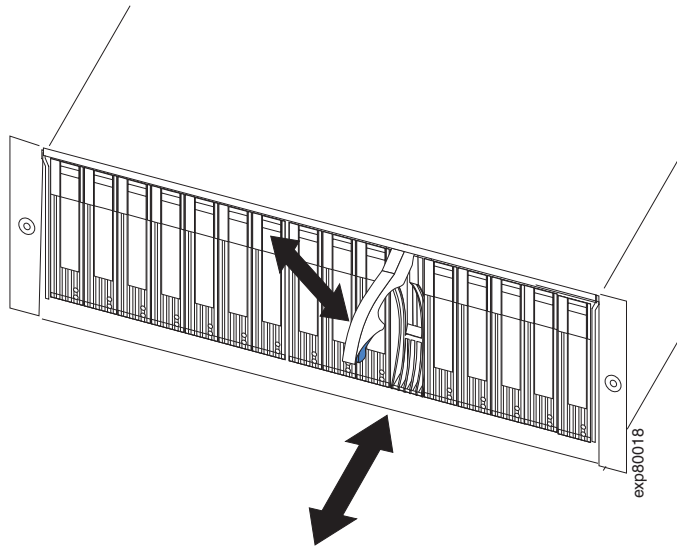

Figure 24. Removing a E-DDM CRU
4. Pull the E-DDM out of the bay, as shown in Figure 24 on page 46.